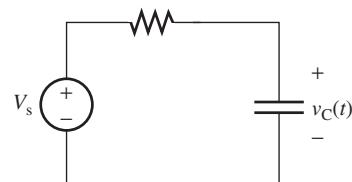

FIGURE P5.3 Circuit for Problem 5.3.
5.3 (B)* Find an expression for $v_C(t)$ in Figure P5.3 given that $v_C(0) = 0$. (The switch closes at $t = 0$.)